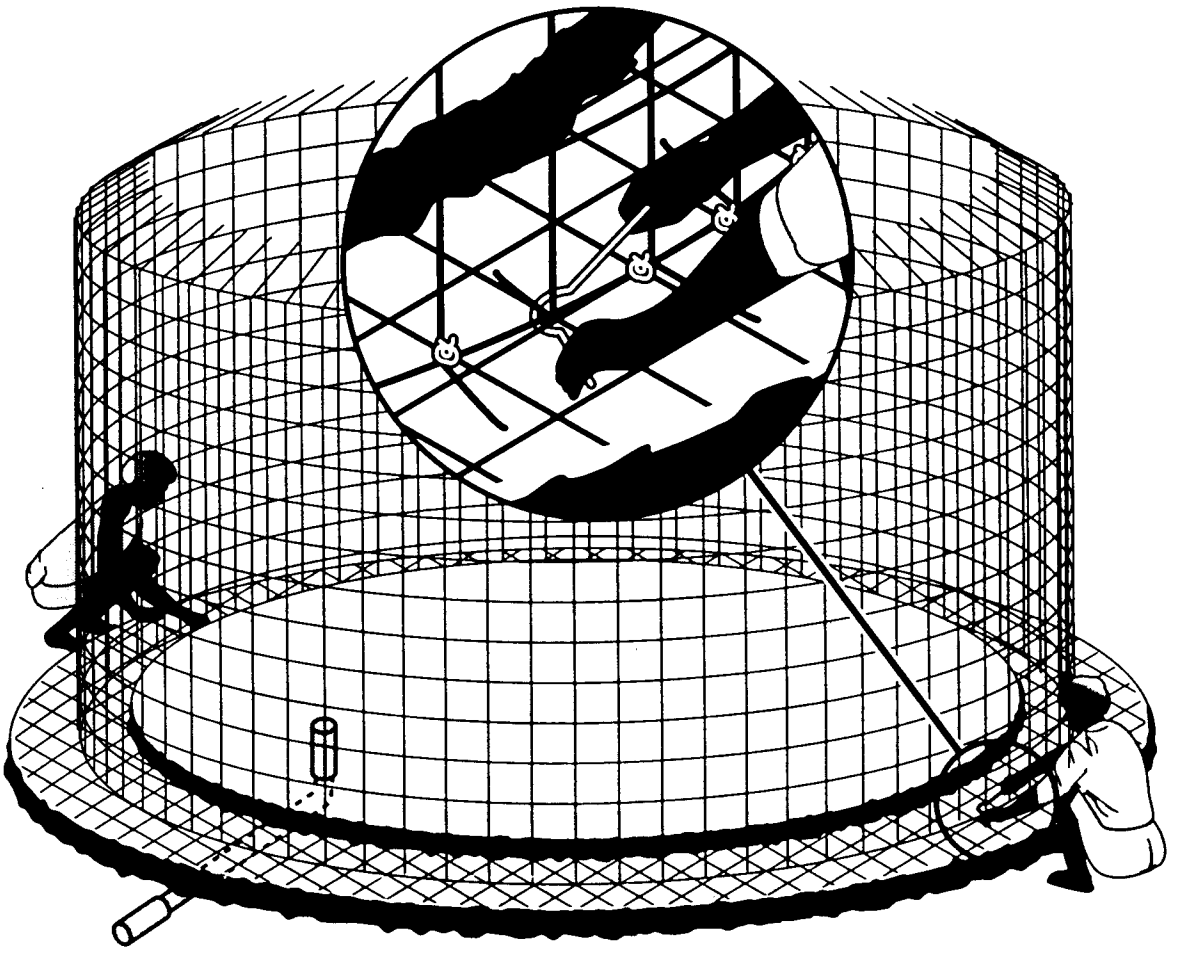

Figure 11.10 Foundation and wall preparation
Day 1 Refer to Figure 11.10.
- Position any outlet or drain pipe in a narrow trench in the earth foundation under the floor and protruding through it as shown in Figure 11.10. Backfill the trench with concrete.